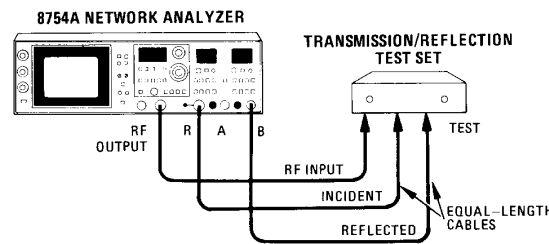

Figure 4-9. Input Port Match Test Setup (A INPUT Port)
8. Connect 8502A to the network analyzer as shown in Figure 4-9.